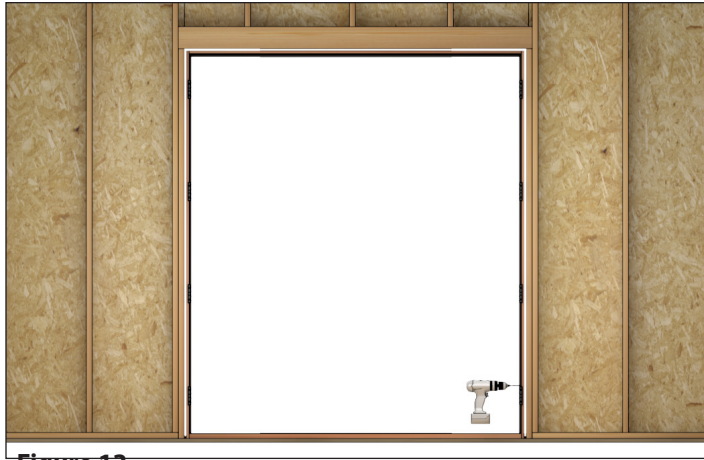

Figure 13
5. After the unit is centered and plumb in the opening, fasten at the bottom corners approximately 4"-6" (102-152) from the sill. Drive an installation screw through the side jamb and into the R.O. framing, flush with the jamb. See figure 13.